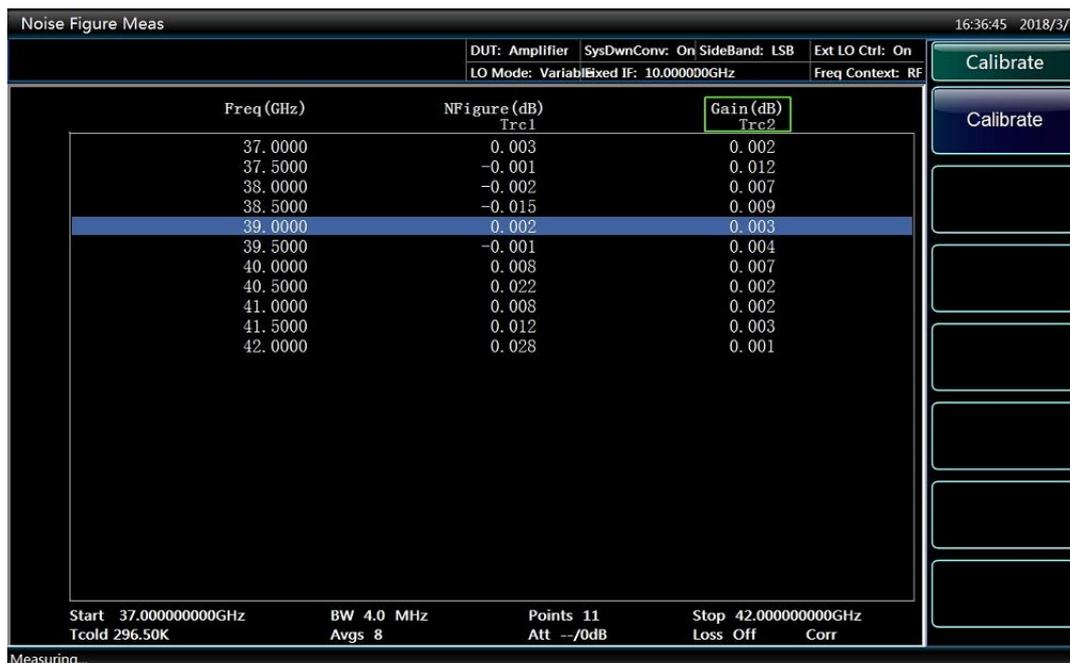

Figure 3.18 Typical Results after Calibration Displayed under the Downconverter Measurement Mode
**Step 2.** Press [Calibrate] menu key twice to calibrate. The first time you press the [Calibrate] key, you will be prompted to press it again. The typical results after calibration are displayed in table format as shown in Figure 3.18.